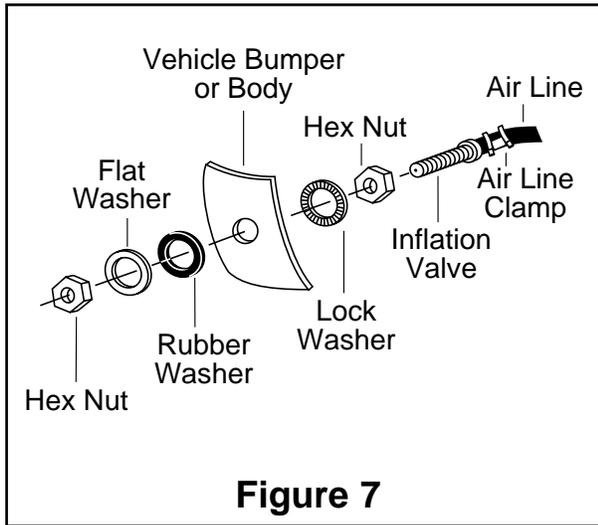

Figure 7
- F. Drill 5/16" hole for inflating valves and mount as illustrated. Rubber washer is for outside weather seal (Figure 7).